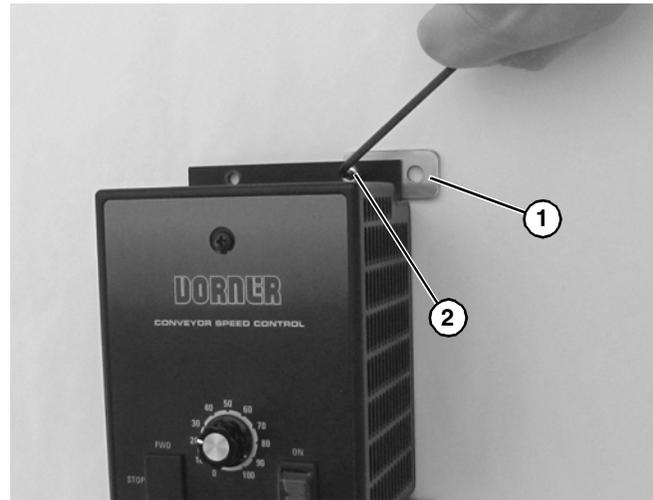

Figure 6
1. Assemble mounting clips (**Figure 6, item 1**) with screws (**Figure 6, item 2**) to the side of the controller.